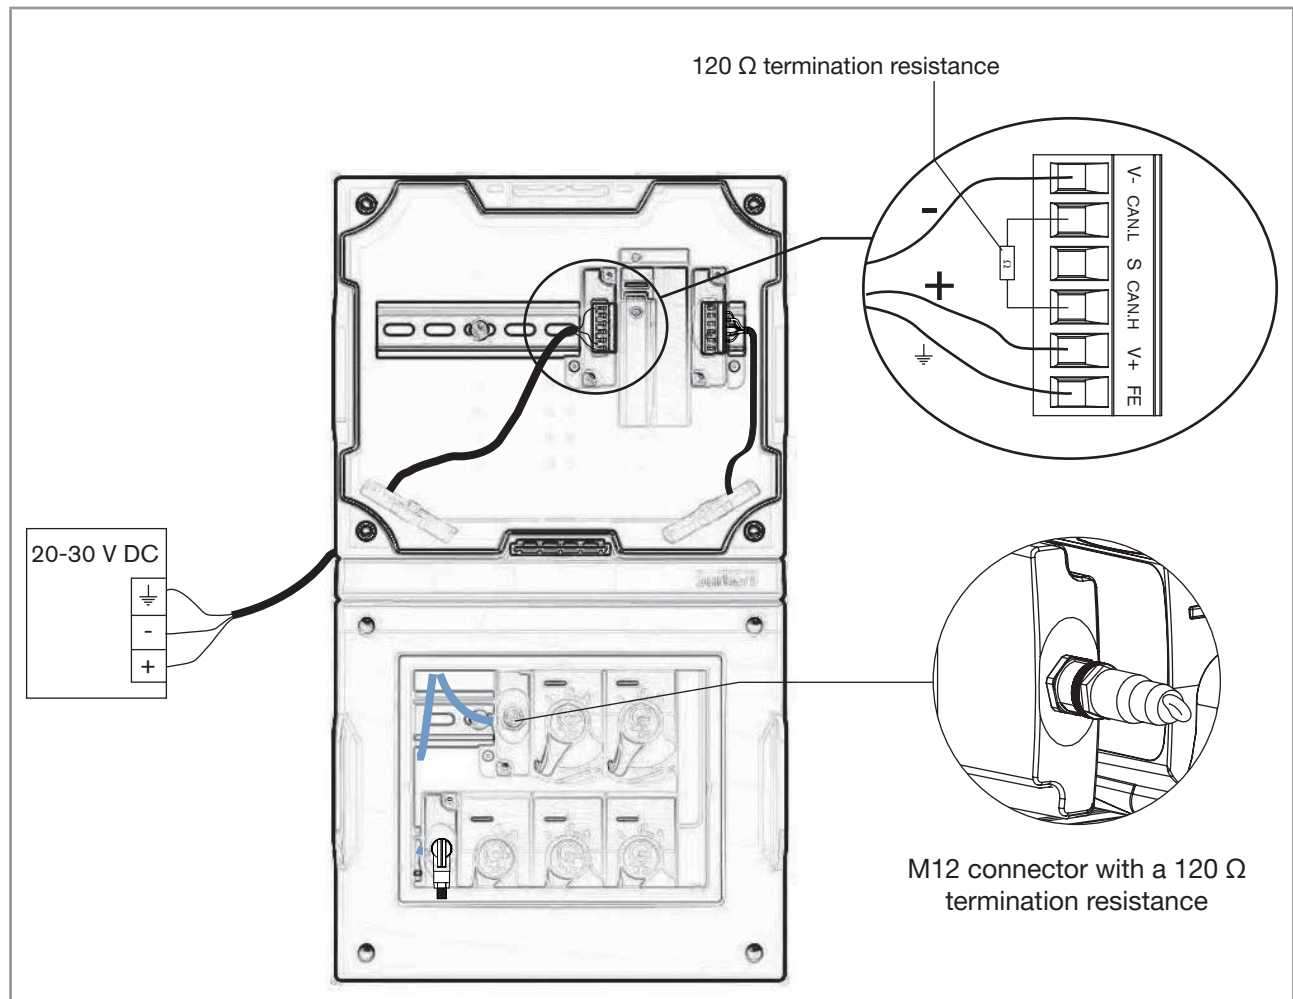

Fig. 17: Connecting the system to the VDC power supply
- Connect the VDC power supply according to Fig. 17, chapter 7.6.1 Terminal assignment of the terminal blocks, and chapter 7.6.2 Pin assignment of the M12 connectors.